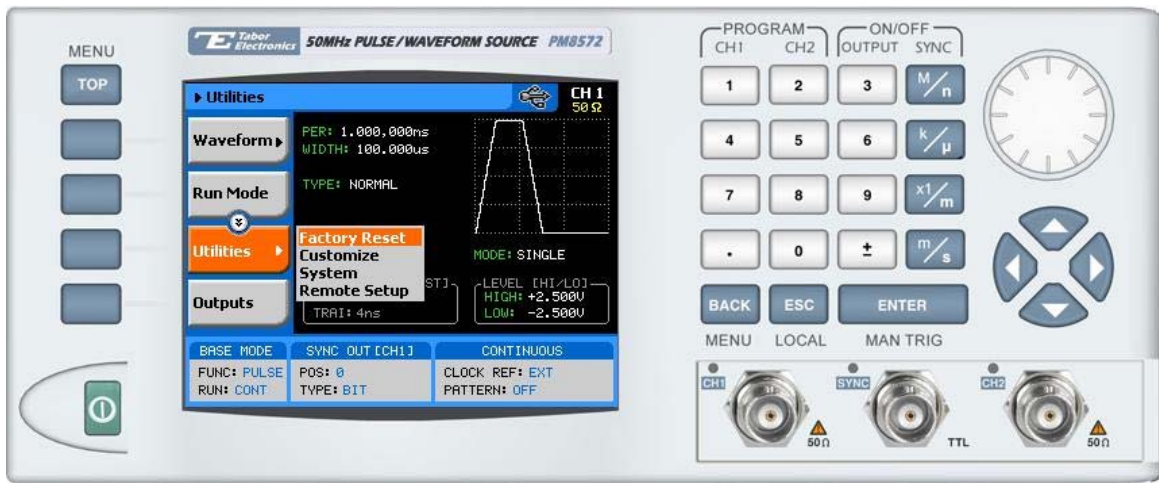

Figure 3-1, Reset PM8572 to Factory Defaults
Observe Figure 3-1 and reset parameters to factory defaults as follows:
The PM8572 has over 300 parameters that control functions, modes, waveforms and auxiliary functions. Due to the complexity of the product, the functions were divided to logical groups and sub-groups and access to these groups is provided using the soft key menus. There are five main menus, of which can be accessed after pressing the TOP soft key; These are shown in Figure 3-1 and are mark as item 3 (A, B, C and D). The main menus are Waveform, Run Mode, Utility, Outputs and Auxiliary. Each main menu provides access to sub-menus as summarized in Tables 3-2 to 3-5. Note that the description in these tables is given for general understanding of what is available in terms of operating the instrument. For detailed instructions, check the appropriate section of the manual.